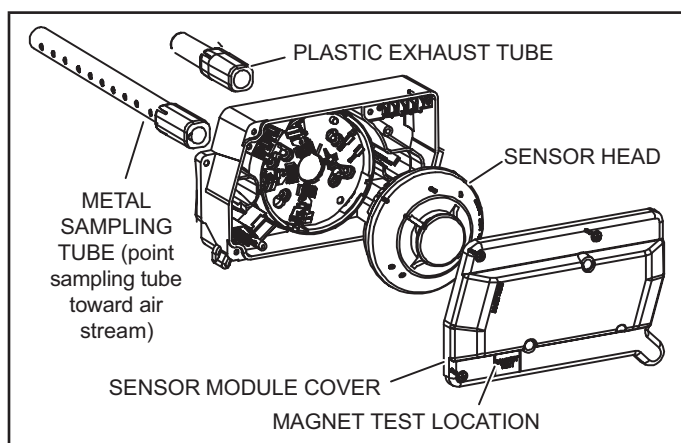

FIGURE 2 Smoke detector
- 1 - Slide metal sampling tube and plastic exhaust tube onto back side of the sensor (see FIGURE 2).